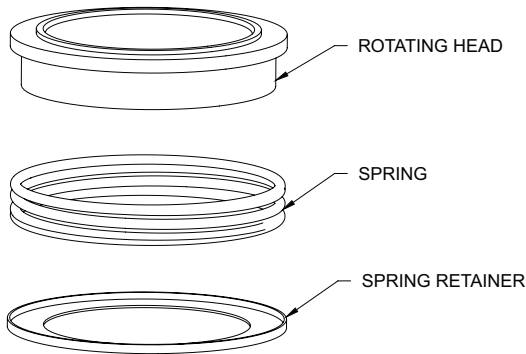
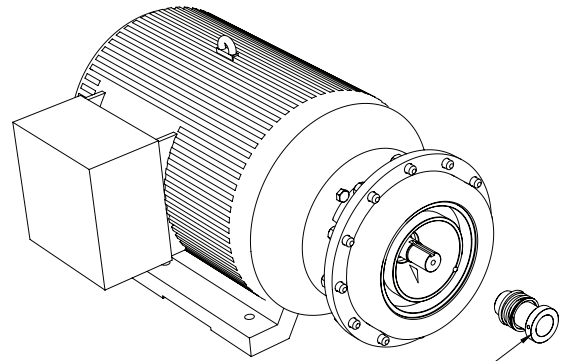

Figure 42
Figure 43
12. Slide sleeve (#25) and O-ring (#10) with the rotating parts of the mechanical seal (Refer Figure 42) from the shaft. See Figure 43.